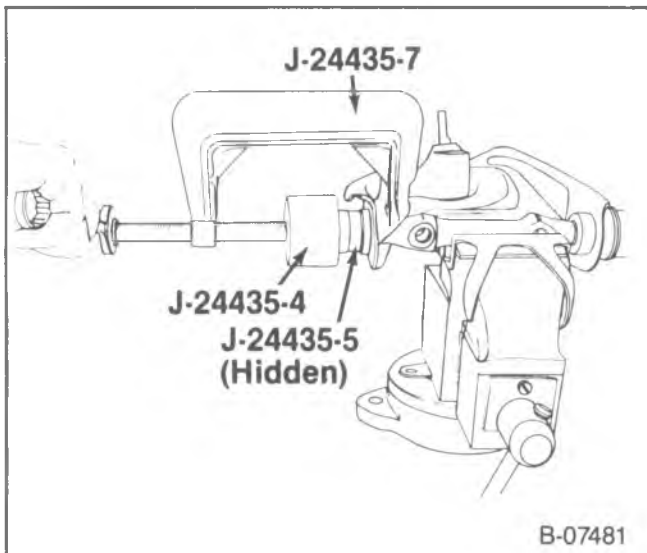

Figure 29—Installing the Upper Control Arm Bushings (R10/1500, G10/1500 and G20/2500 Models)
1. Bushings (26) and the pivot shaft (29) into the upper control arm (28).
- Use J-24435-4, J-24435-5, and J-24435-7 (figure 29).
- Tighten the clamp (J-24435-7) to install the bushing (26).
- Slide the pivot shaft (29) into the upper control arm (28), then install the other bushing (26).